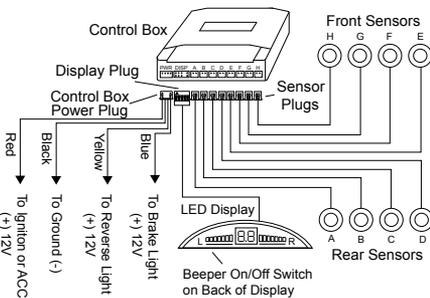
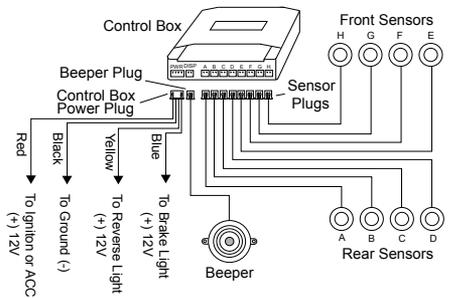

Fig. 4 Control Box, Display, Sensors, and Wiring
Fig. 5 Control Box, Beeper, Sensors, and Wiring
- c) Insert the 4-pin plug of the power cable for the control box into its 4-pin socket labeled "PWR" on the front side of the control box. See Fig. 4 (LED System) or Fig.5 (Beeper Only System).
2. Wiring the Control Box - Refer to Fig. 4 (LED System) or Fig.5 (Beeper Only System) If necessary, remove the taillight assembly and use a voltage meter to verify the wires found. Strip 1/2" of the wires found for connecting wires together.
The display has a built-in beeper (audible alert) with On/Off Switch. There are seven (7) LED Lights (3 Green, 2 Yellow, 2 Red) on each side of the two-digit distance display (Fig. 4). The color LED lights indicate both orientation of obstacle and Safe/Warning/Stop zone (Chart. 1).